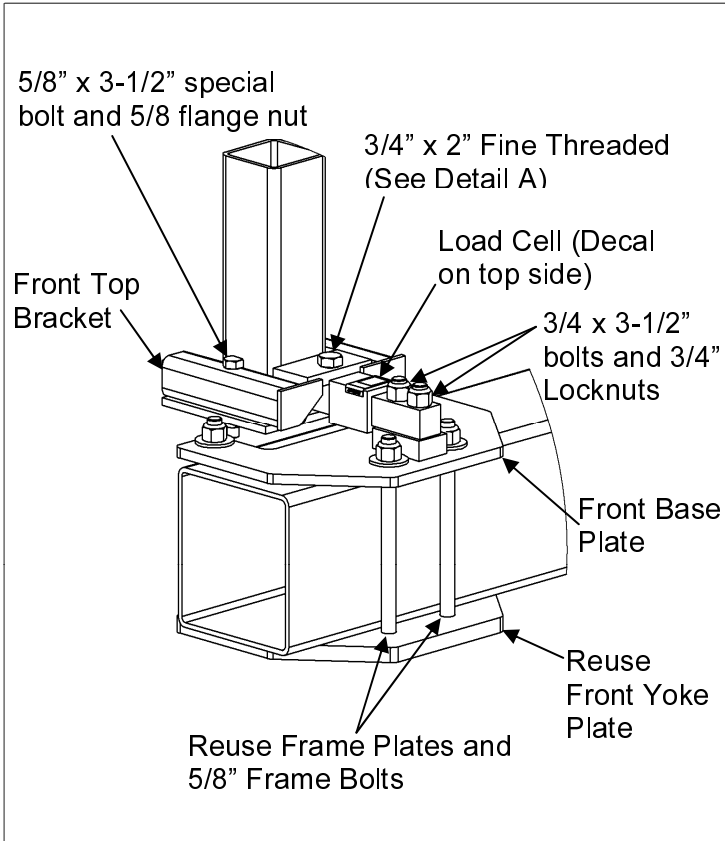
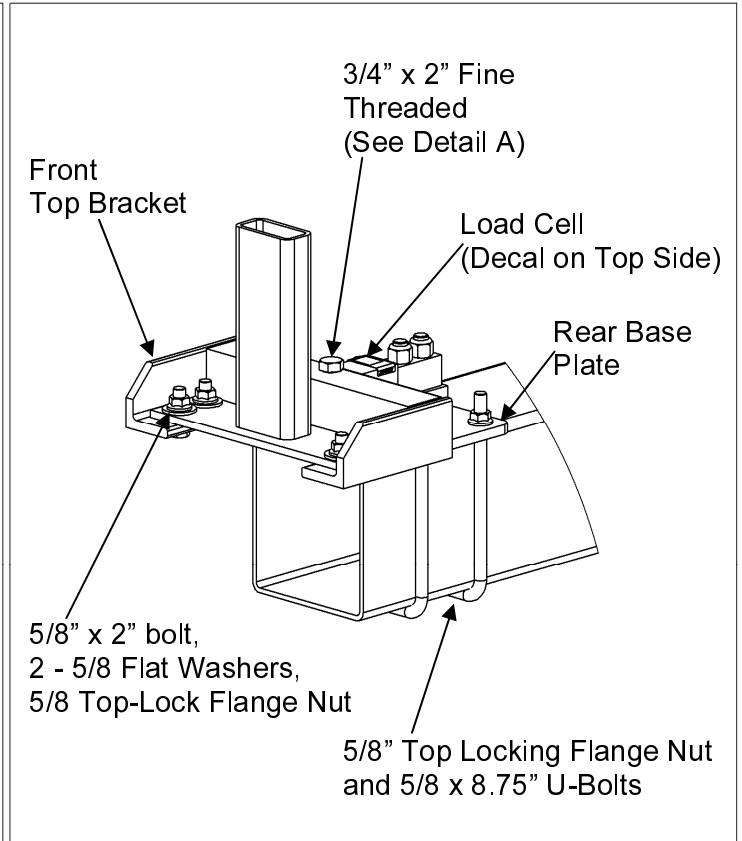

Figure 2
Figure 3
**Use Figures 2 and 3 for steps 9 - 13**
9. Install the front top bracket by using the 5/8 x 3 1/2" special bolts. The cropped bolt edge is installed next to the 4 x 4 tubing and from the top (see Figure 2). Install the front top bracket by using 5/8 x 2" bolt and two 5/8" washers, flange nut (see Figure 3).
10. Assemble load cell to the front base plate by using 3/4 x 3 1/2 in. bolts and locknut. Do not tighten bolts completely. You may have to slide load cell while aligning base and top brackets. **TOP DECAL NEEDS TO BE ON TOP OF LOAD CELL!** (See Figure 2 or 3)
11. Install front base plate weldment to the main frame with the yoke plate on the bottom. Reuse the original frame bolt (see Figure 2). Install front base plate weldment to the main frame with the supplied 5/8 x 8.75" U-bolts and 5/8 top lock flange nuts (see Figure 3).